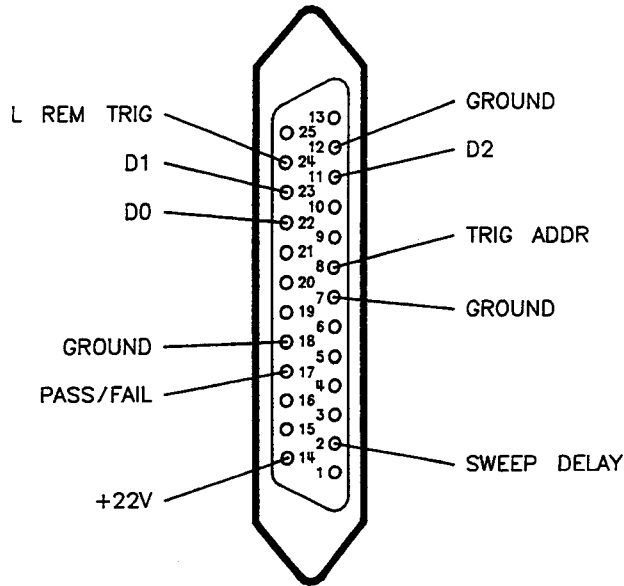

Figure 17. Analyzer Rear Panel Test Set Interconnect Connector Pins
- Figure 17: test set interconnect connector pins
The step attenuator, doubler bypass switch, transfer (F/R) switch, and test sequence TTL output are controlled by signals from the analyzer. These control signals are sent to the test set through the test set interconnect cable as shown in Figure 17. The switch control board assembly near the rear panel contains logic circuits to decode the control signals and activate the appropriate drivers to perform the desired command.